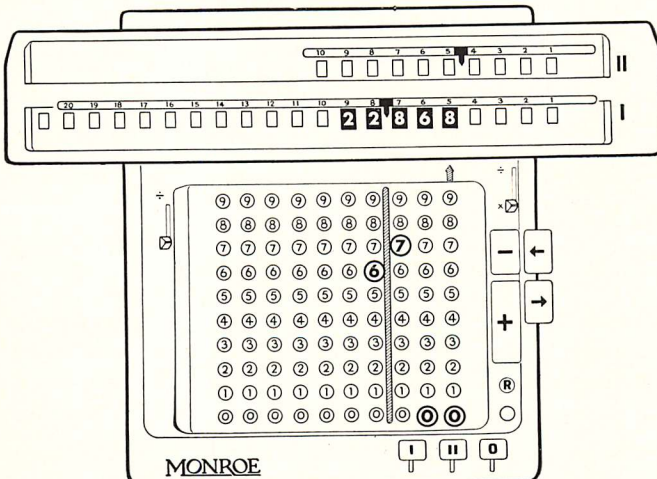

Figure 11
*Step 6*—Set 6.7 on the keyboard so that it appears as 6.700. With the carriage in “5” position push divide lever (Figure 11).